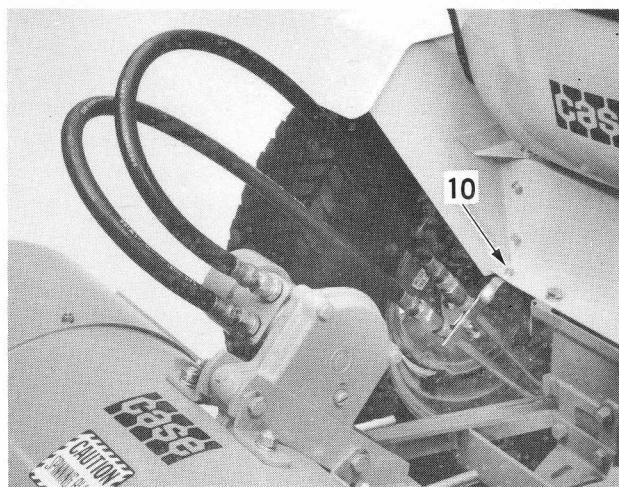

Figure 14. Installing the Tube Clamp
10. See Figure 14. Clamp the PTO tubes to the rear of the seat support using the preassembled bolts, nuts and lock-washers.